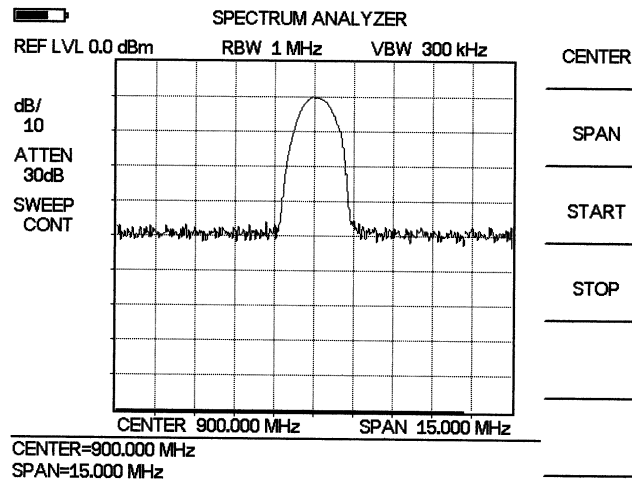

Figure 4-12. 15 MHz Frequency Span
Step 10. Enter 1, 5 using the Up/Down arrow key or the keypad and press **ENTER** to set the span to 15 MHz (Figure 4-12).